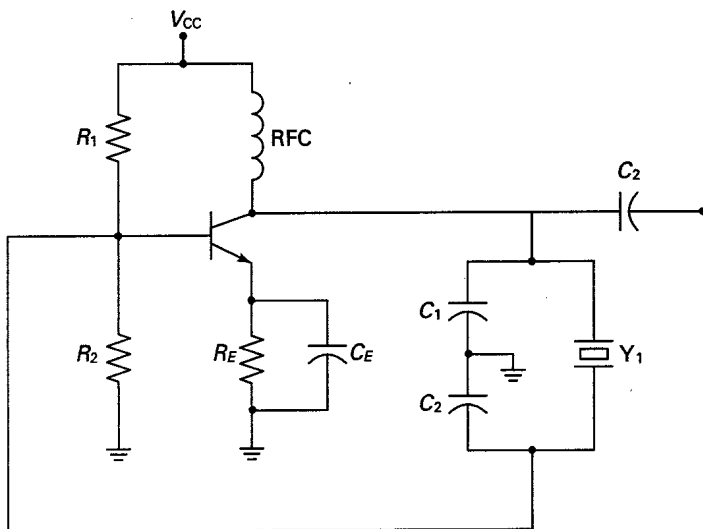

Fig. 2-26
**2.13** Explain the operation of the crystal oscillator in Fig. 2-26.
The operation of the crystal oscillator in Fig. 2-26 is similar to the operation of the Colpitts oscillator discussed earlier. The crystal  $Y_1$  operates between  $f_s$  and  $f_p$  and thus acts like an inductance. As a result,  $Y_1$  and  $C_2$  provide the  $180^\circ$  phase shift required of the feedback network.  $C_1$  and  $C_2$  still determine the feedback fraction  $B$ . The stability is exceptional since oscillations will cease if the frequency should shift too close to either  $f_s$  or  $f_p$ .